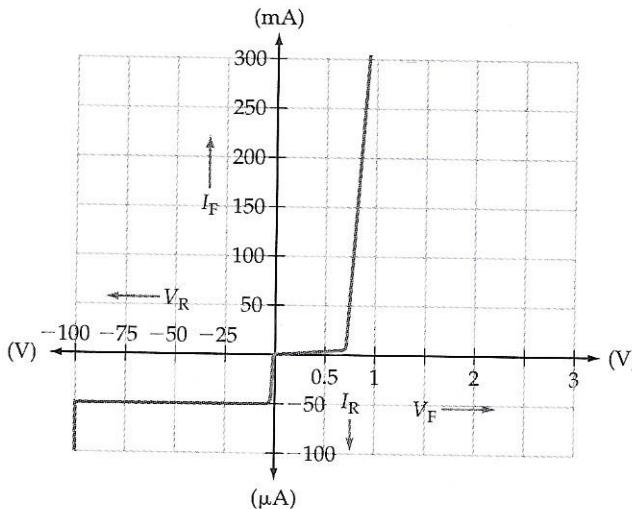

Figure 2-31 Diode characteristics for Problems 2-1, 2-2, and 2-9.
- 2-1** Calculate the static forward resistance for the characteristics in Fig. 2-31 at a 200 mA forward current. Determine the reverse resistance at a 75 V reverse voltage.
- 2-2** Determine the dynamic resistance at a 150 mA forward current for a diode with the characteristics shown in Fig. 2-31.
- 2-9 A diode with the forward characteristic in Fig. 2-31 is connected in series with a $30\text{ }\Omega$ resistance and a 6 V supply. Determine the diode current, and find the new current when the resistance is changed to $20\text{ }\Omega$.